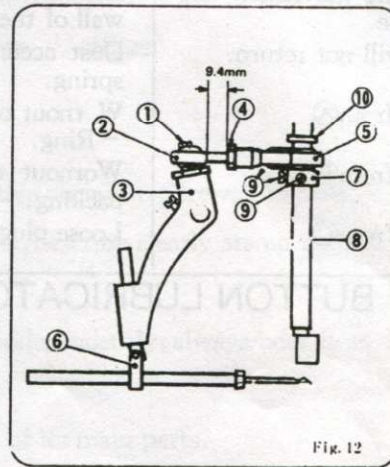

Fig. 12
4 - 5. For replacement or adjustment of Bal. Rod, refer to Fig. 12.
The position of Needle is adjusted so that the distance between the point of Needle (at its highest position) and Throat Plate is 13 mm, after loosening screw on Needle Bar Connection Assembly ⑥ in Fig. 12.
① Screw 11/64S40089
② Rod End 6APOS8
③ Needle Bar Lever 242051A
④ Nut 1N8
⑤ Connecting Rod Assembly 242011A
⑥ Needle Bar Connection Assembly 242101A
⑦ Eccentric Cam (part of Connecting Rod Assembly) 242011
⑧ Main Shaft 241101
⑨ Screw 11/64S40001
⑩ Spacer 241161